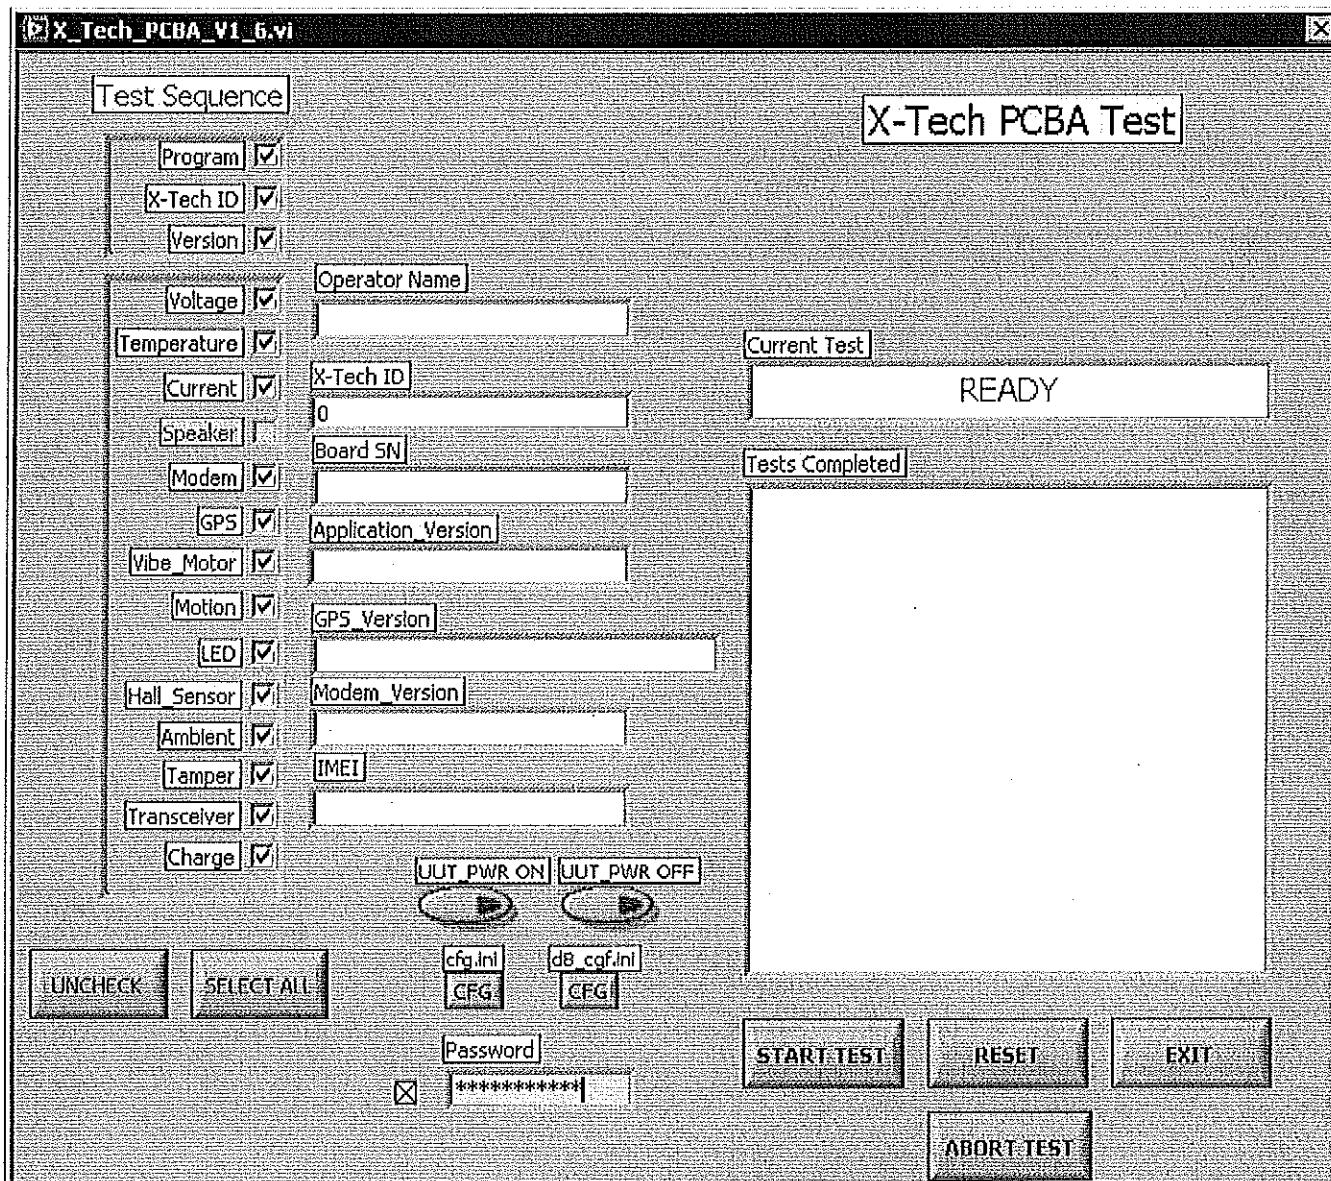

Figure 2 – Click on the check box next to the Password text box. Type in “protech2008”, this will enable the “Config.ini” and “Cfg dB.ini” buttons.
3. Type in “protech2008”, this will enable the “Config.ini” and “Cgf dB.ini” buttons (Figure 2).